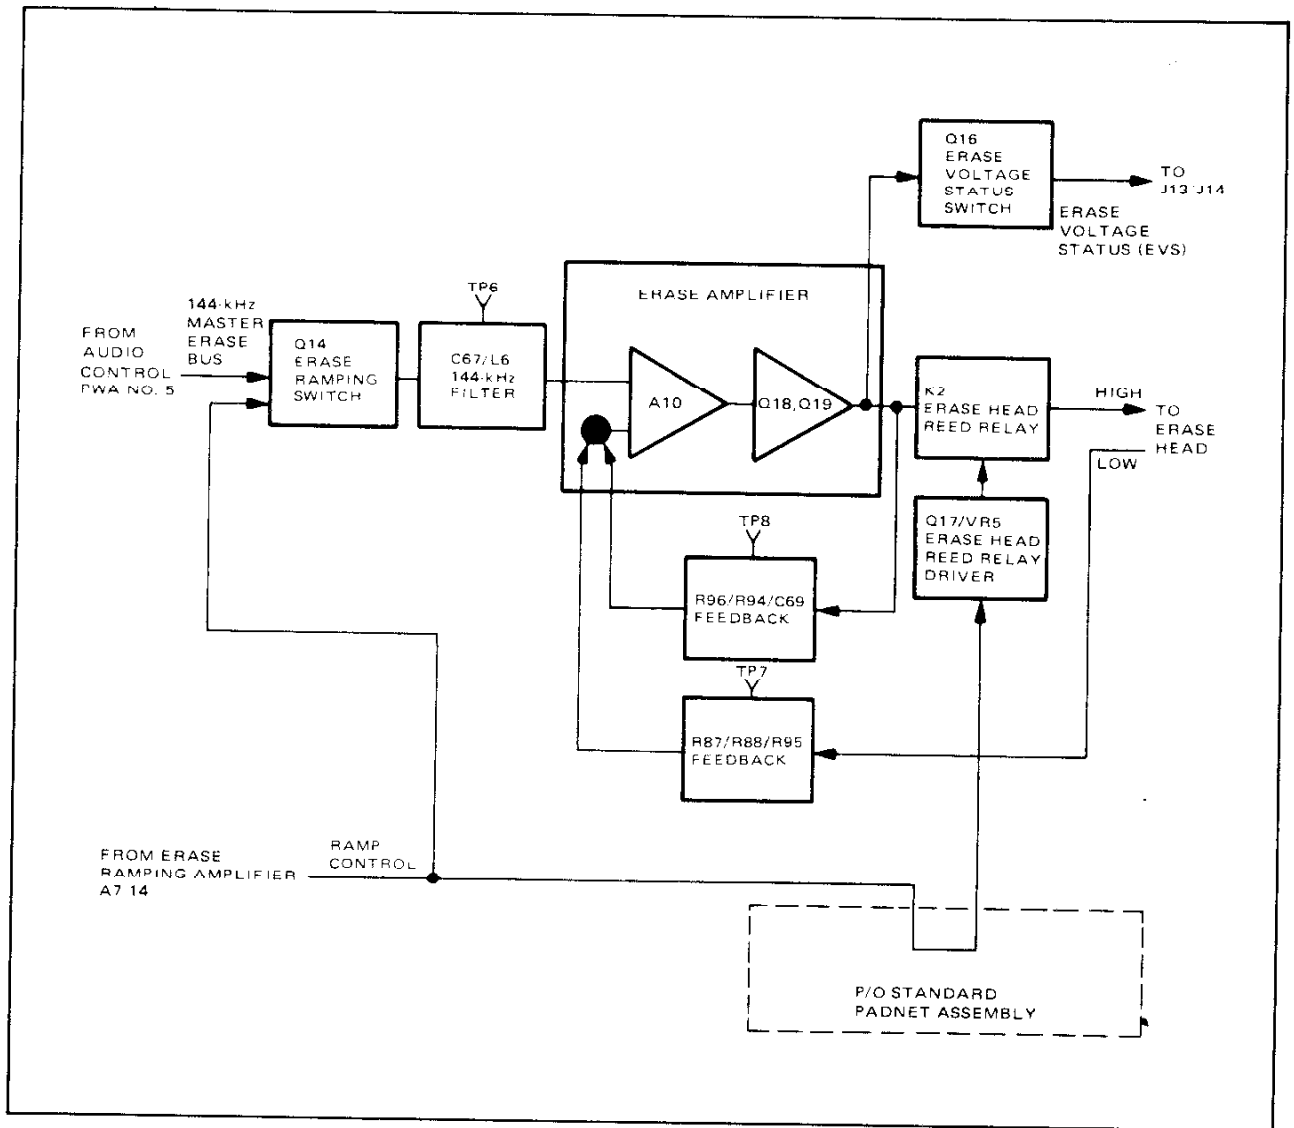

Figure 4-21. Erase Circuit, Simplified Block Diagram
**4-75. Erase Circuit.** The erase circuit provides filtering, buffering, and ramping of the 144-kHz erase signal from the master erase bus to the erase head. A simplified block diagram of the erase circuit is shown in Figure 4-21.
As shown in Figure 4-21, the erase circuitry receives 144-kHz from the master erase bus and the erase ramping control from the control logic. The SAFE/REC signal controls, via the erase ramping control amplifier on the control logic, the ramp on and ramp off of the erase signal to the erase amplifier and the erase head. During record mode, the 144-kHz signal goes through resistor R83 to erase ramping switch Q14 and filter C67/L6. Filter C67/L6 is a 144-kHz bandpass filter which removes the harmonics from the received 144-kHz signal.